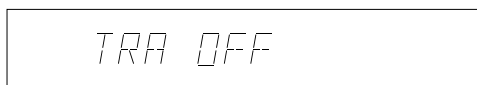

Fig. 4
3. "TRA OFF" appears on the FL display of the main unit and TRADE MODE is cancelled. (Fig. 4)